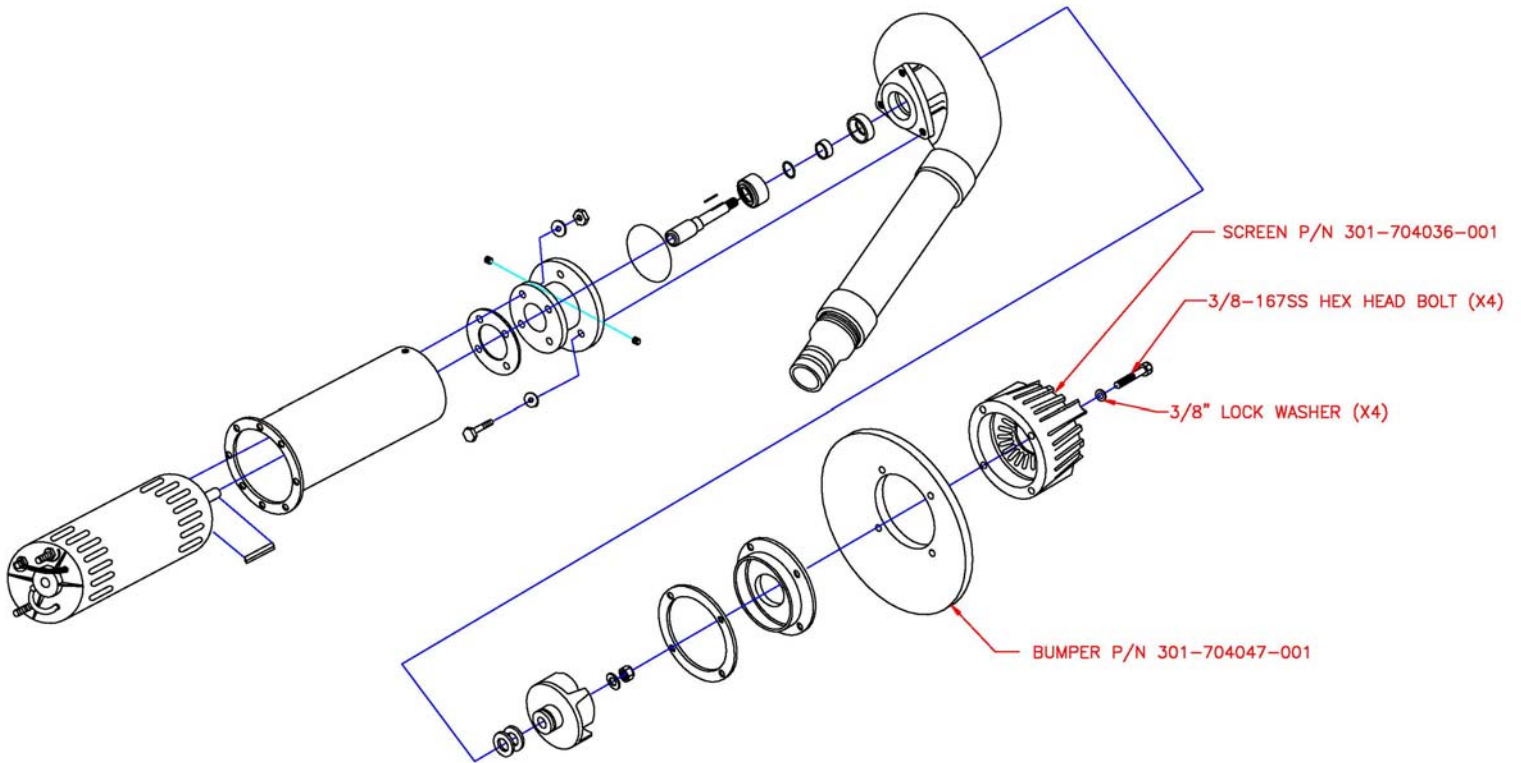

Figure 1-1
1	Remove four (4) 3/8" bolts and lock washers from bottom screen. See Figure 1-1. Retain hardware for re-installation
2	Remove screen P/N 301-704036-001. See Figure 1-1